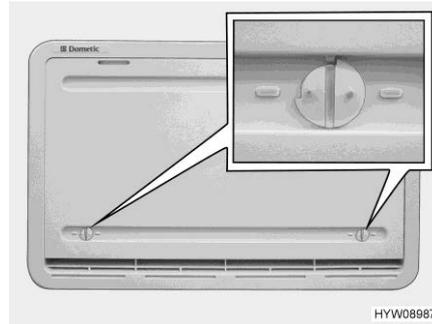

Fig. 133 Winter cover
If the refrigerator is to be operated at low external temperatures, the manufacturer recommends the use of a winter cover (Fig. 133) for the refrigerator ventilation grills.
- Open both locks (Fig. 133) (groove in horizontal position).